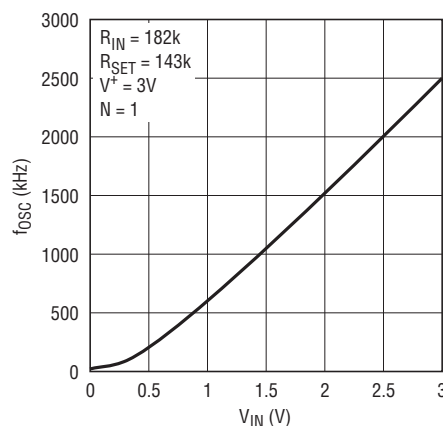

Figure 11. Output Frequency vs Input Voltage
Equation (2) yields $R_{IN}/R_{SET} = 1.273$ and Equation (3) yields $R_{SET} = 142.8k$. $R_{IN} = 1.273R_{SET} = 181.8k$. For standard resistor values, use $R_{SET} = 143k$ (1%) and $R_{IN} = 182k$ (1%). Figure 11 shows the measured f_{OSC} vs V_{IN} . For V_{IN} higher than 1.5V, the VCO is quite linear; nonlinearities occur when V_{IN} becomes smaller than 1V, although the VCO remains monotonic.